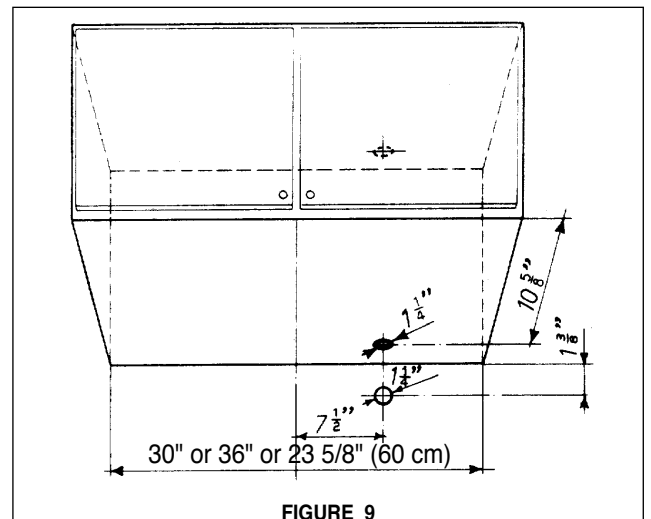

FIGURE 9
5. Determine the proper location for the Power Supply Cable. Both possible locations are given in **FIGURE 9**. Use a 1 1/4" Drill Bit to make this hole. Run the Power Supply Cable. Use caulking to seal around the hole. DO NOT turn on the power until installation is complete.